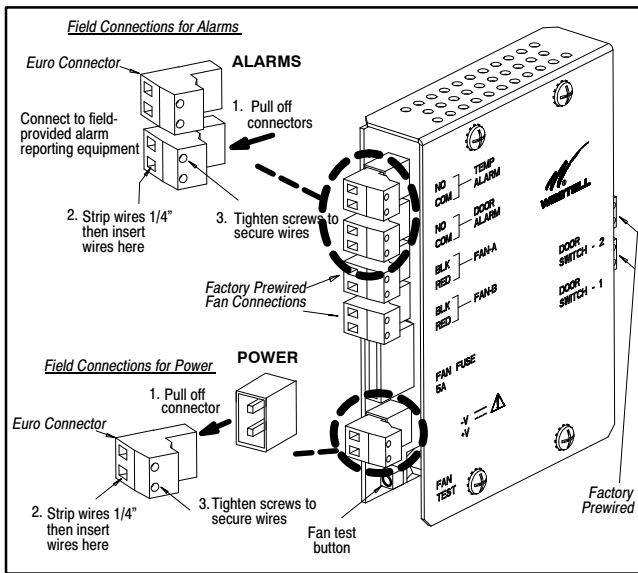

Figure 16. Euro-Connectors for Field-Connections
Follow the steps below to connect +24V or -48VDC fan power to the Euro-connector in the Controller Card in the Boxer cabinet. Always follow local codes and company practices, and see Figure 9 and Figure 16 as necessary.
6. **Pull out power Euro-connector.** Remove the 2-position Euro-connector at the bottom left corner of the Controller Card (pull it out, as shown in Figure 16). Loosen the small screws in the connector, to accept the wires.
7. **Connect power wires to loose Euro-connector.** Insert each stripped wire into the proper position (in the rectangular hole, see Figure 16) provided for it in the Euro-connector, holding each wire in place while tightening each screw.
see Figure 16) in similar fashion, and labelling each connector as it is removed, to facilitate re-connection with the replacement card. It is not necessary to remove any wires from the connectors (unless a fan is suspected of being faulty and is also being replaced).
3. **Remove fuse.** Remove the 5A fan fuse from the controller card (see Figure 9 or Figure 16 for fuse location).